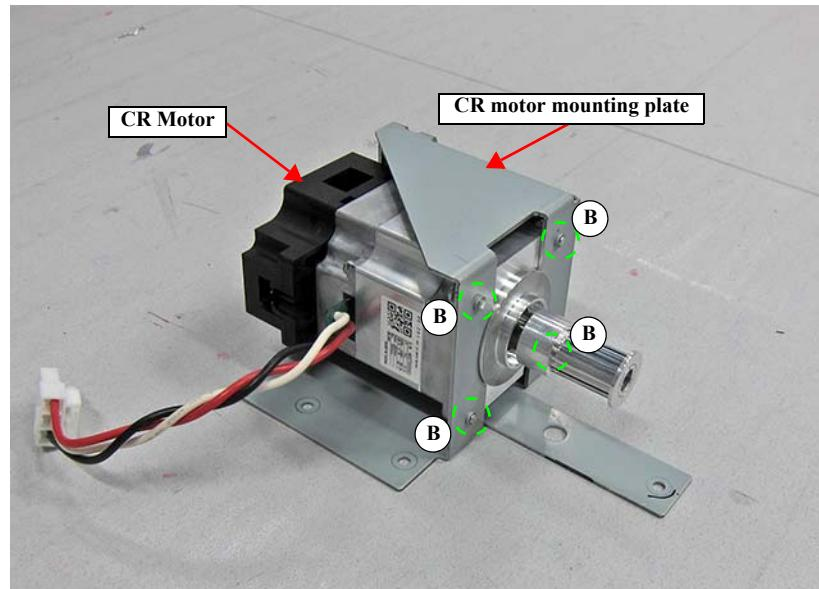

Figure 3-214.
- Confirm the positions of the connectors of the CR Motor and then attach the CR Motor to the CR Motor mounting plate. (Figure 3-214)